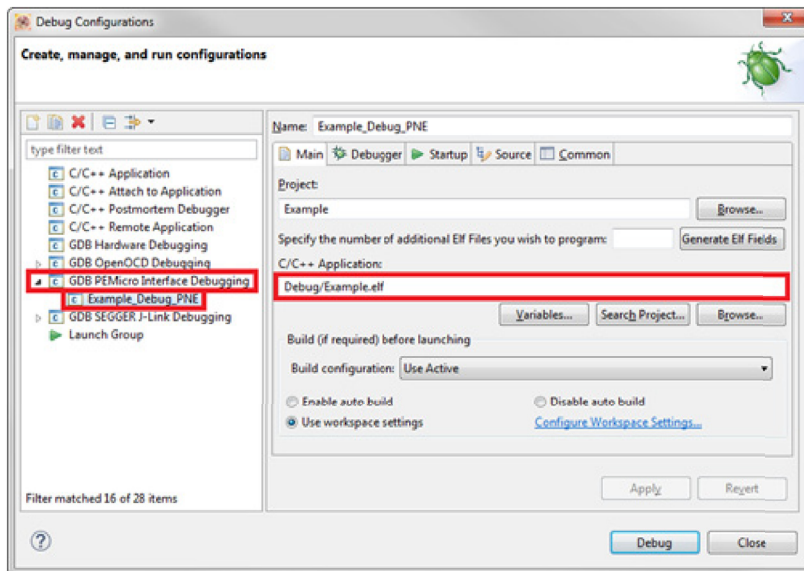

Figure 22. Downloading the application (b)
3. Make sure that **C/C++ Application** contains the path to the project's .elf file (see Figure 22).